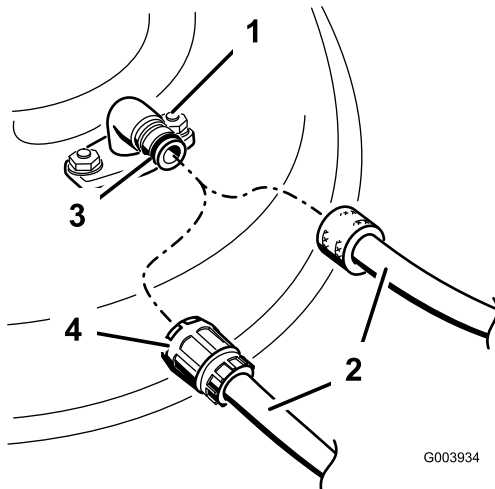

Figure 51
3. Attach the hose coupling to the end of the mower washout fitting, and turn the water on high (Figure 51).